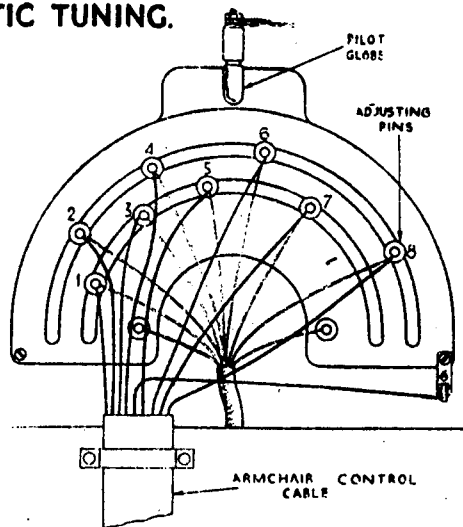

Fig. 2.—Automatic adjusting pins and Armchair Control connections.
- (1) Press the key labelled "Manual", and set the Fidelity Control in any but the extreme clockwise position.
- (2) Manually tune station No. 1. Be sure to tune accurately by watching the Tuning Indicator. Tune till the darkened sector of the Indicator's screen is at the narrowest possible width.
- (3) Look in the back of the receiver and two semi-circular slots in which are eight adjusting pins, as shown, numbered 1 to 8 in Fig. 2, will be seen. These correspond to the keys on the keyboard, numbered 1 to 8, from left to right.
- (4) Hold the "Manual" key down and press key No. 1 on the keyboard. Both keys will stay down. Then move adjusting pin No. 1 along the semi-circular slot, either clockwise or anti-clockwise, until the pilot globe situated above the adjusting pin goes out. It will be noticed that when the adjusting pin is moved to the right past this position the globe will light brightly and to the left dimly.
When an Armchair Control Unit is connected to the receiver, as shown in Fig. 2, it duplicates the action of the eight station selector keys on the receiver's keyboard. That is, after pressing the "Manual" key on the receiver, eight broadcast stations may be tuned automatically at any distance up to the length of the connecting cable from the instrument (25 feet).